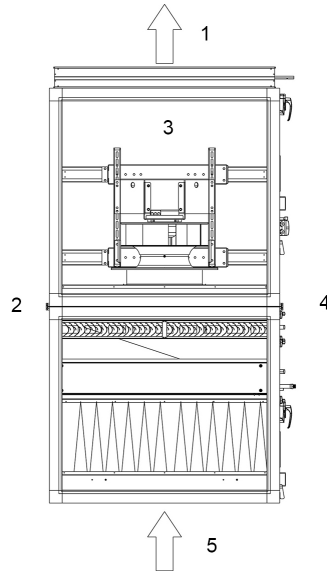

Figure 9.4.2.1. Maintenance side of the unit.
1. Maintenance side is identified looking down from AHU's upside according the main air flow direction (Figure 9.4.2.1). The main air flow for the supply and heat recovery air handling units is a supply air flow and the main air flow for the exhaust air handling units is an exhaust air flow. For AHU with heat recovery coil the maintenance side is identified separately for supply and exhaust modules.